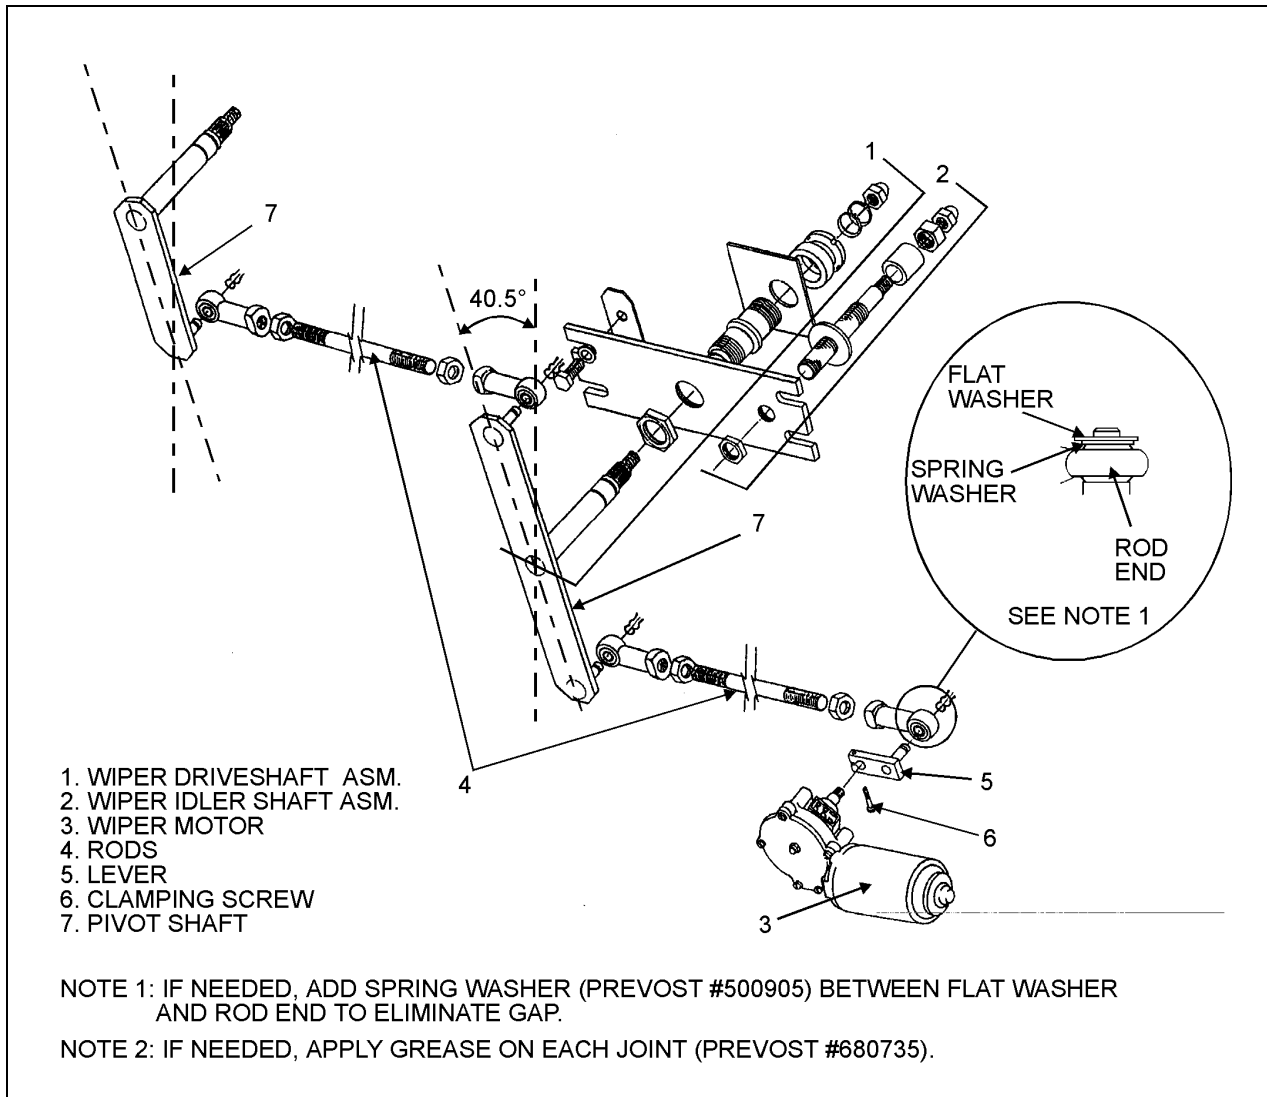

FIGURE 34: LOWER WINDSHIELD WIPER INSTALLATION
4. Adjust the rod located between right pivot shaft and motor to a  $40.5^\circ$  angle (Fig. 34). The motor lever must be on the same axle as the rod.
3. Loosen the clamping screw retaining the lever at the end of the motor driving shaft (Fig. 34).